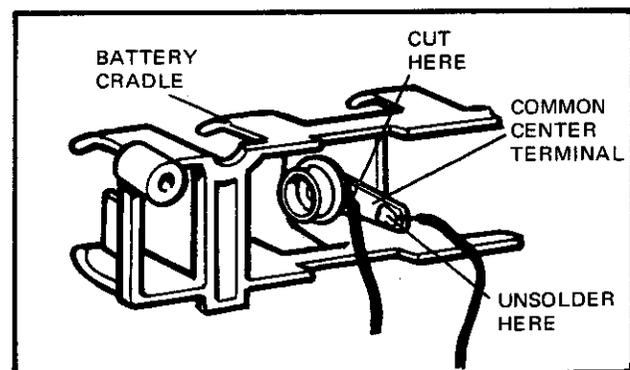

FIG. 5.27 FREEING THE BATTERY CRADLE
4. Unsolder the black shutter lead at the common center terminal. Cut the black timer lead as close to the center terminal as possible (see Figure 5-27). Remove the battery cradle.